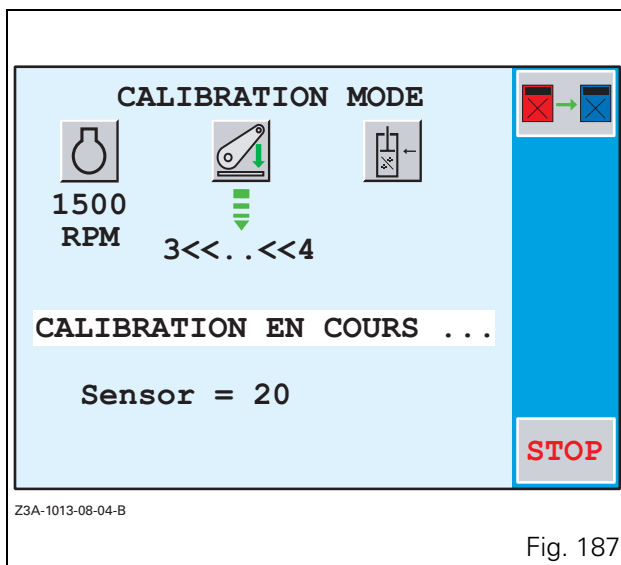

Fig. 187
- Press the key $\llcorner_6$. Calibration starts and a new window is displayed (Fig. 187).